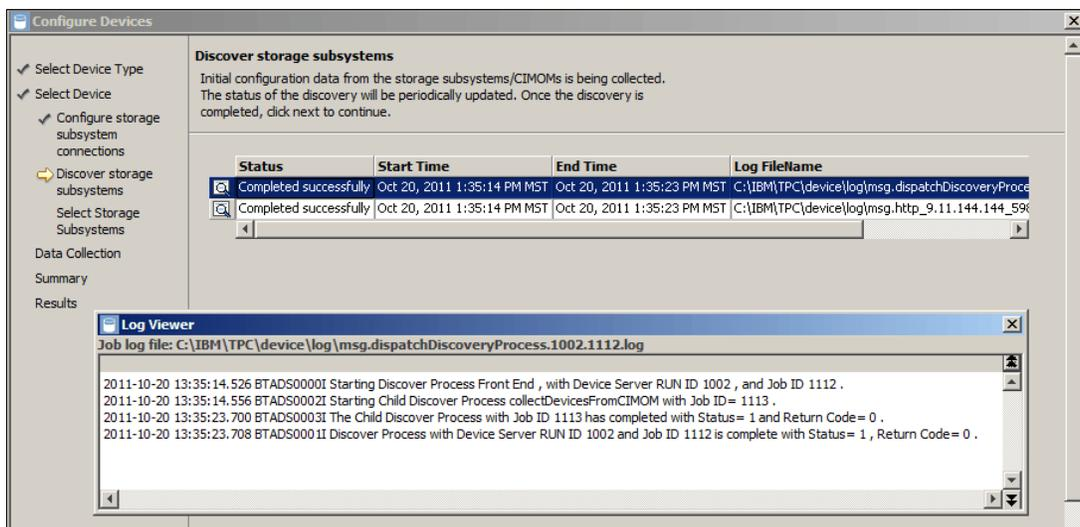

Figure 9-16 Discover storage subsystems
- After you add all data sources successfully to the configured devices list, clicking **Next** on this page begins the discovery process of the storage subsystem managed by CIMOM. TPC collects initial configuration information for these entities. Figure 9-16 shows the discovery process log.